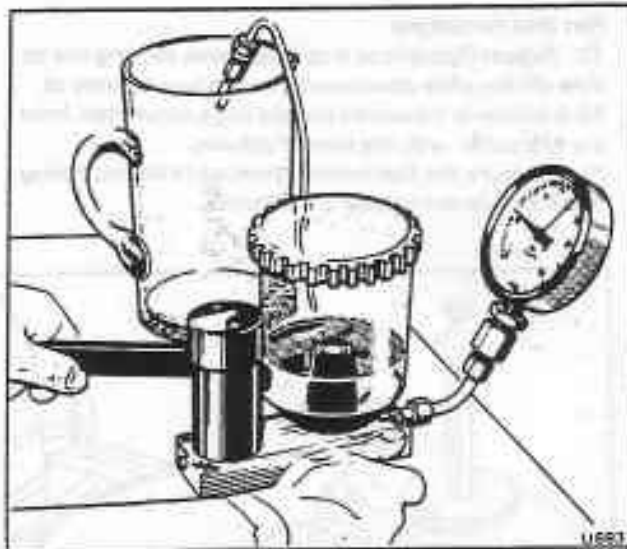

Fig. B4-43 Testing an injector
3. Connect one injector to the test equipment RH 9614 (Bosch Number KDJE 7452). Refer to figure B4-43.